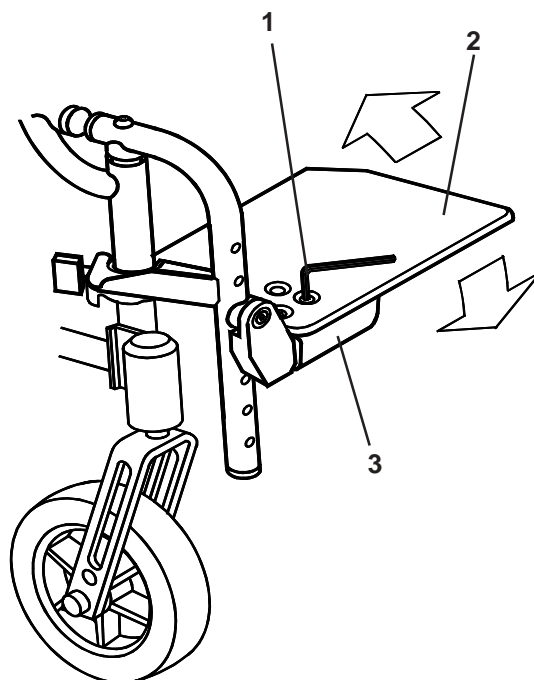

Fig. 33
To adjust the angle of the footplate, (Fig. 33) loosen the two retaining screws (1) sufficient to allow the footplate (2) to rotate. Rotate the footplate to the desired angle and tighten the screws to 8-10Nm torque, using a 4mm Allen key.
The footplate can also be moved forwards or backwards (Fig. 33) by removing the two screws (1), moving the footplate (2) forwards or backwards and aligning the holes in the footplate with the holes in the receiver (3). Replace the screws and tighten as above.